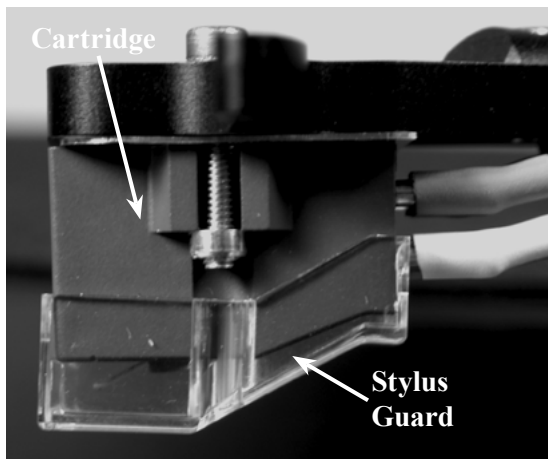

Figure 14
- Carefully slide off the Stylus Guard from the cartridge by pulling the cover straight down. Refer to figures 14 and 15.